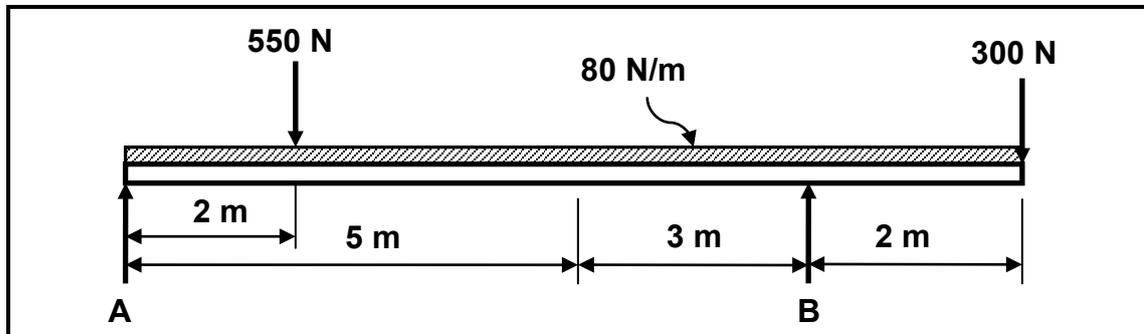

FIGURE 7.2
- 7.3 FIGURE 7.2 shows a uniform beam that is supported by two vertical supports, **A** and **B**. A uniformly distributed force of 80 N/m is exerted over the whole length of the beam. Determine, by means of calculations, the magnitudes of the reactions in supports **A** and **B**.